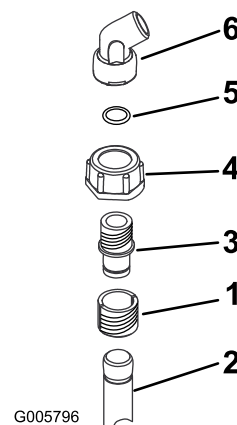

Figure 19
9. Install the 1/2 inch middle fitting into place and secure it with the medium retainer nut from loose parts (Figure 19).